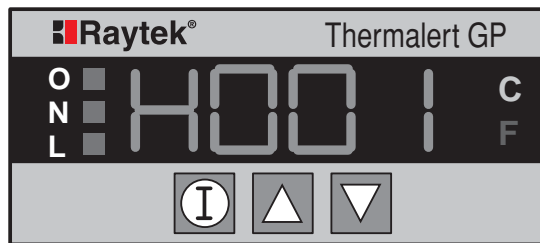

Figure 6: Device Selection Display
1. From the temperature/value display, press and hold , press , then release them both. A display similar to Figure 6 appears. (The "H" will be followed by numbers designating the device type. See Step 2.)